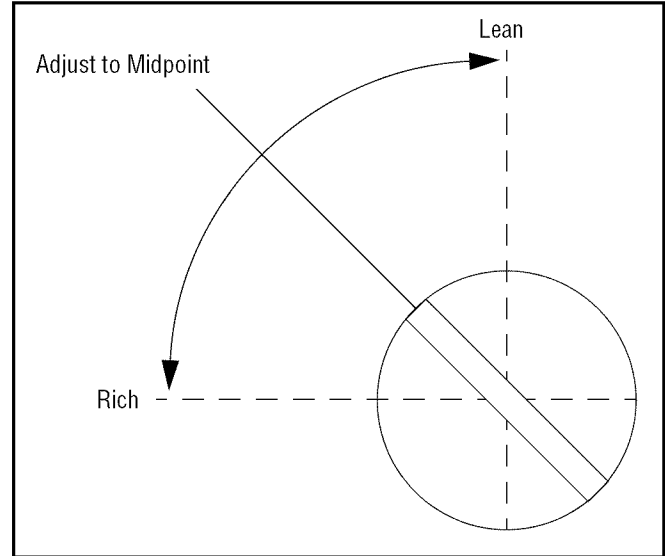

Figure 16
2. **Low Idle Fuel Screw Setting:** Place the throttle into the “idle” or “slow” position. Turn the low idle fuel mixture screw out (counterclockwise) from the preliminary setting until engine speed decreases (rich). Note the position of the screw. Now turn the mixture screw in (clockwise). The engine speed may increase, then it will decrease as the screw is turned in (lean). Note the position of the screw. Set the adjusting screw midway between the rich and lean settings. See Figure 16.